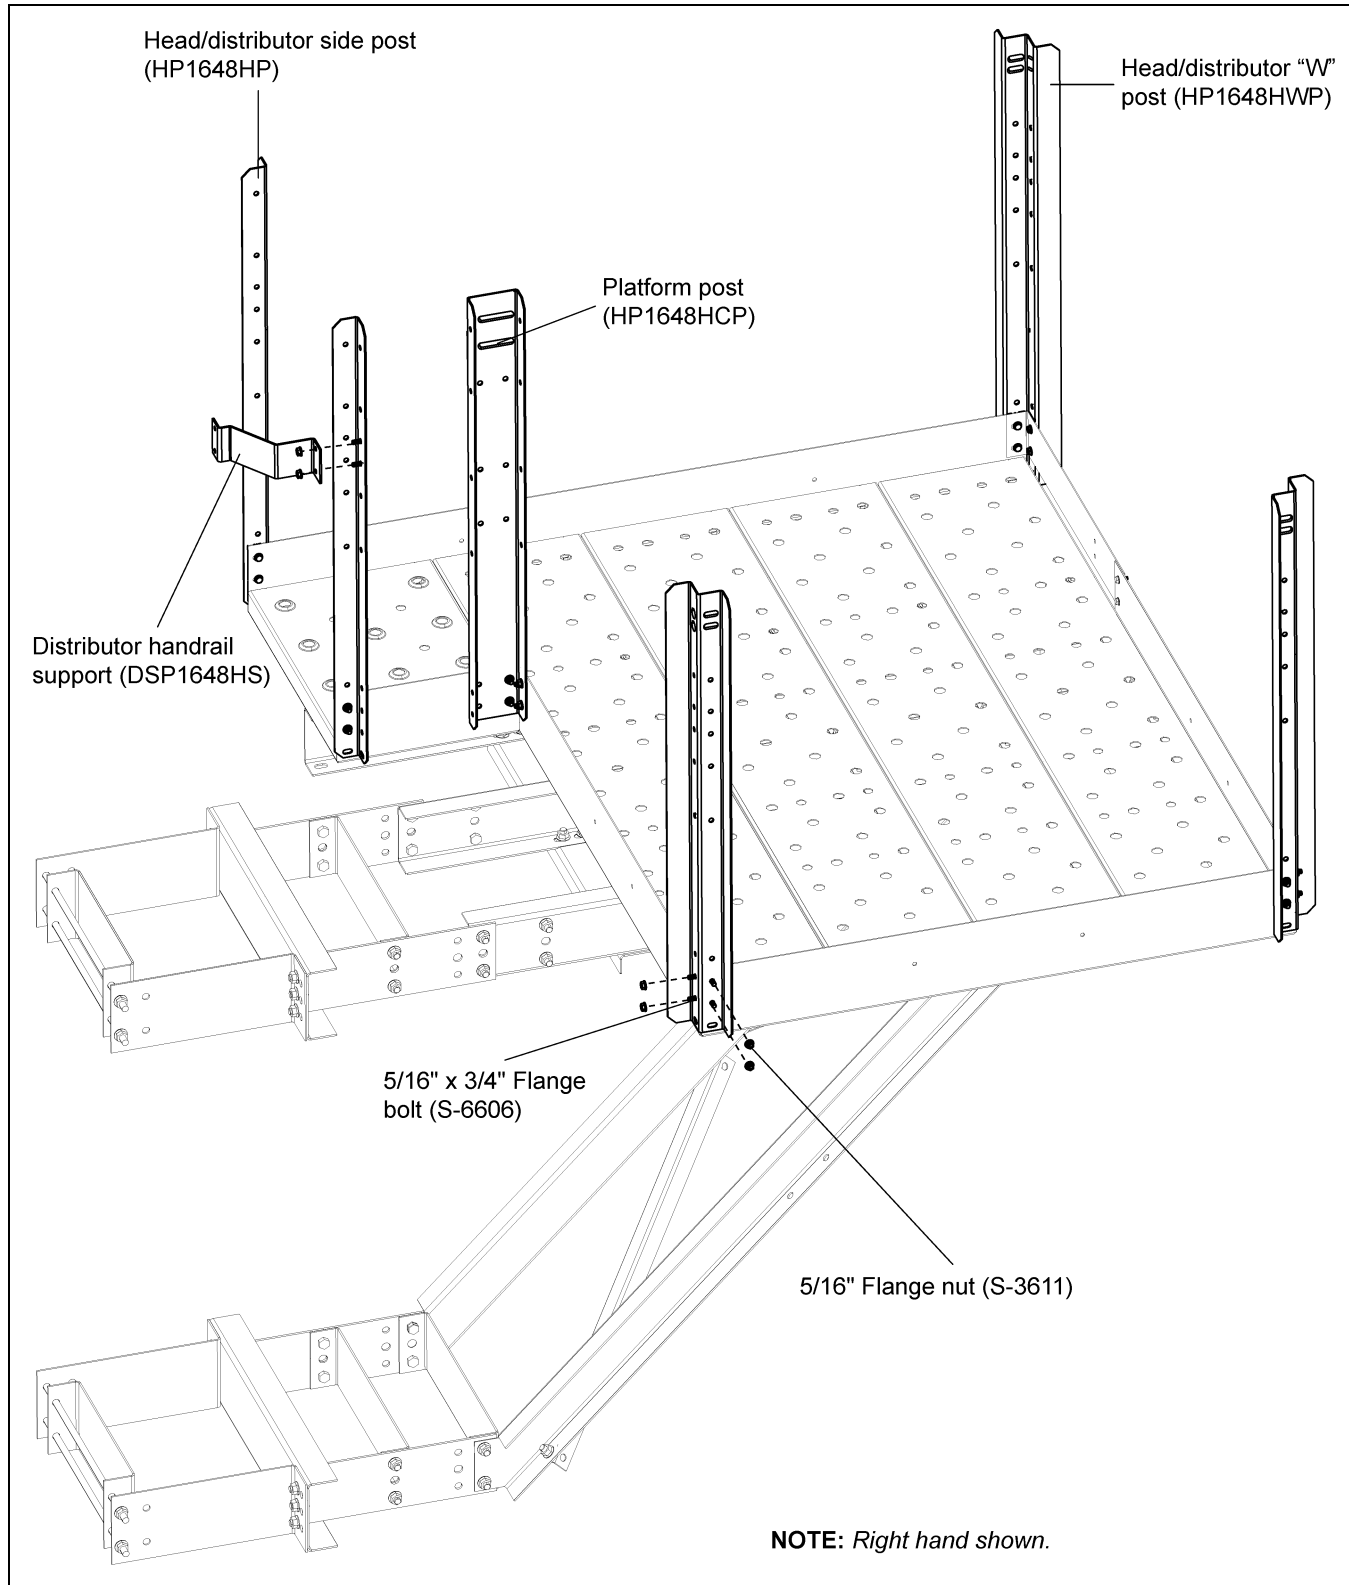

Figure 10L
1. Install the remaining two (2) "W" corner posts to the corners on the non-entrance side of the decking using four (4) 5/16" x 3/4" flange bolts and nuts per post.
2. Install platform post (HP1648HCP) to the inside corner of the decking near the entrance to the platform using four (4) 5/16" x 3/4" flange bolts and nuts.
3. Attach side posts (HP1648HP) to the decking at the entrance to the platform using two (2) 5/16" x 3/4" flange bolts and nuts per post. (*See Figure 10L on Page 74.*)
4. Install distributor handrail support to the side post on the inside, located closest to the trunking through holes 3 and 4 counting from the top of the post. Use two (2) 5/16" x 3/4" flange bolts and nuts to fasten in place. *(See Figure 10L.)*